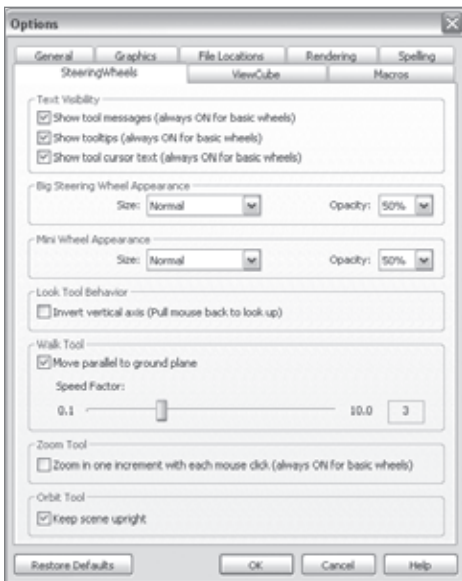

Figure 2.85
**SteeringWheels** This tab offers various controls over the visibility of the SteeringWheel, its size and opacity on the screen, and some additional settings, such as the Zoom and Orbit settings. You can also access these settings by clicking Options in the Wheel context menu (the Options dialog box opens with the SteeringWheels tab selected). You can adjust any of the parameters shown in Figure 2.85.